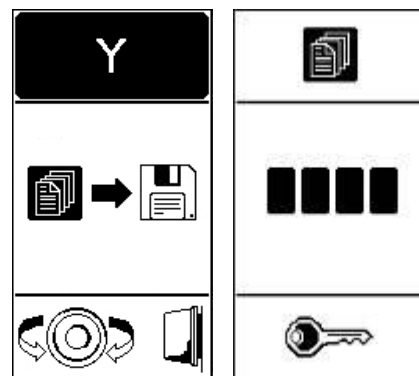

Figure 28 - Saving recipes
From the screen of the previous paragraph, press "ESC" 2.4 ref. 7 to exit the modification management screen of the current recipe. When exiting the recipe editing mode, the display will show the image in Figure 28, and it will be possible to save / delete the changes made. Turn "I-DRIVE" to select "Y = YES" to save the changes, or "N = NO" to exit the recipe modification mode without saving the changes. If changes need to be saved, enter the USER FOR RECIPE MANAGEMENT password, as illustrated in 3.8.3.